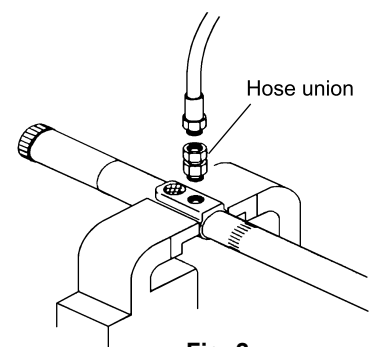

Fig. 2
- 2) Fix the pump with a vise and connect a prepared material hose to its discharge port. When this is done, it is recommended to purchase and attach a hose union to between the pump and hose. (Fig. 2)